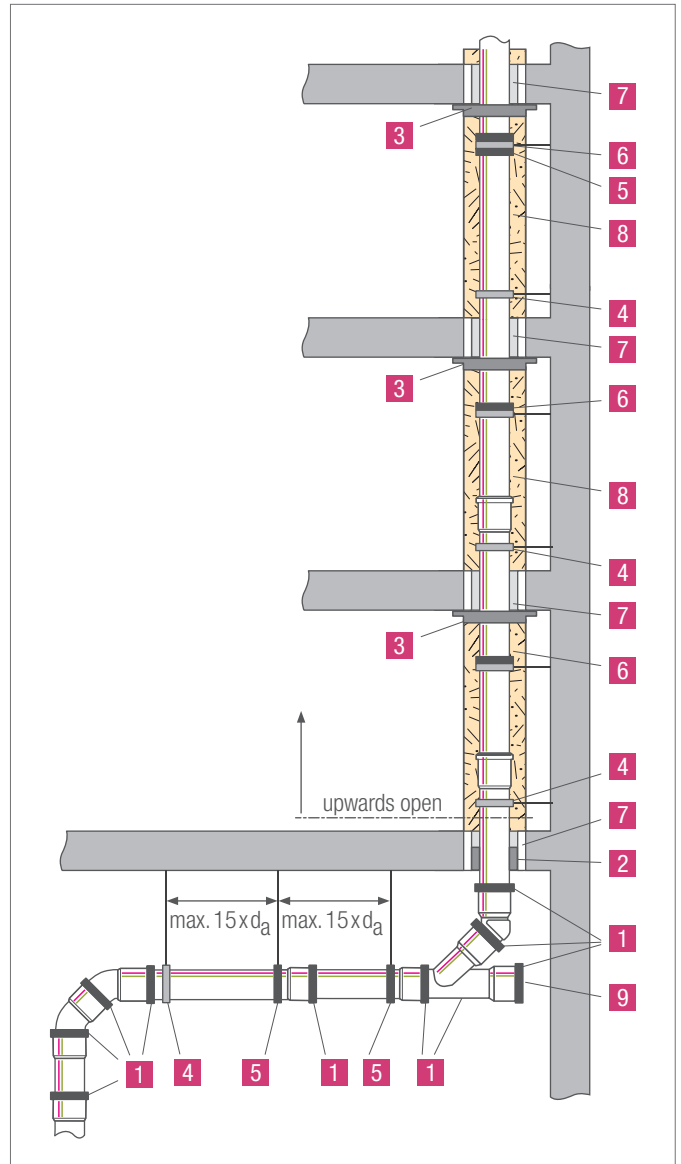

Fig. 4-1 Internal drainage pipe
An example of a roof drainage pipe arrangement with off-set is shown in Fig. 4-1.
All socket connections must be secured against coming apart by using push-fit locks (LKV) (1). Push-fit locks are not required for vertical pipe runs that are open at the top (see marking in Fig. 4-1).